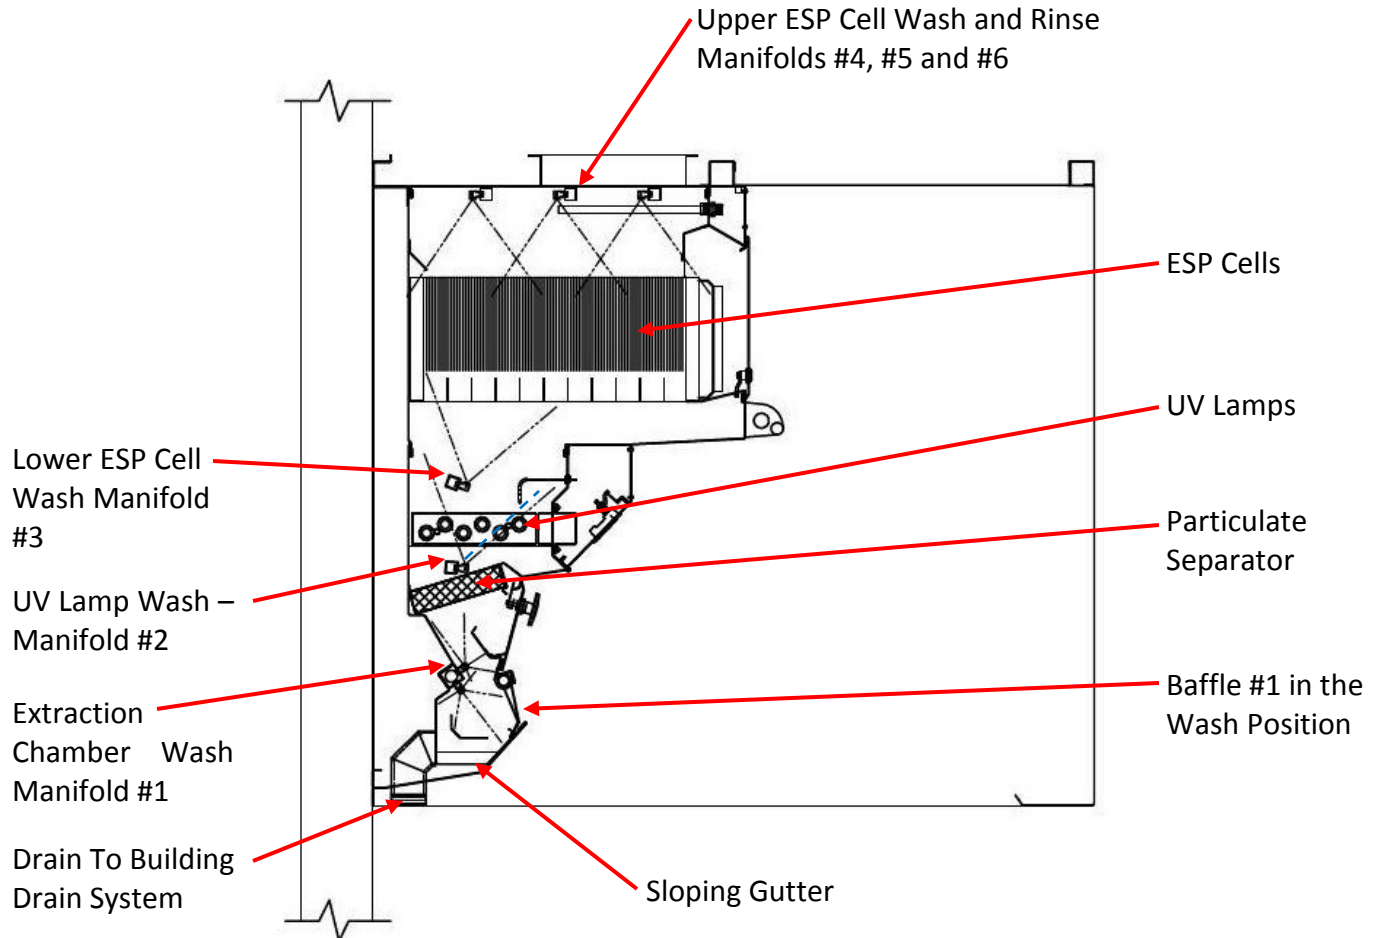

Figure 3-7-1
4. Baffle #1 begins closing forward to the wash position (Refer to Figure 3-7-1). This action takes approximately 45 seconds. **Note:** Baffle #1 only moves to the wash position on Models CG3-UVi-SPC and CG3-UVi-SPC-FDL Series. Baffle #1 is fixed on Models CG3-UVi-SPC-FDT, CG3-UVi-SPC-FDD and CG3-UVi-SPC-ND. Refer to pages 1-6 and 1-7 for complete explanation. **Important Note:** Refer to your Command Center Technical Manual for specific text displayed while the baffle #1 is moving to the wash position.
The Wash Cycle sequence washes away the day's grease, dust and lint accumulation from the Baffles in the Extraction Chamber, the Particulate Separators, gray dust from the UV Modules, and smoke particles from the ESP Cells, flushing them down to the main gutter which slopes to drain that leads to the building drain system (Refer to Figure 3-7-1). **Important Note:** Refer to your Command Center Technical Manual for specific text displayed while the Ventilator is in a Wash Cycle.
Note 1: If the Ventilator is equipped with a Gaylord Autostart Controller, the exhaust fan will stay on if the temperature at the sensor mounted in the canopy exceeds 90°F. (Refer to Figure 3-7-1). Once the temperature drops below 90°F., the fan will continue to run for 15 minutes and then shut off.
2. At the conclusion of a Wash Cycle, open the Extractor Inspection Doors and remove the Particulate Separators (Refer to Figure 3-7-1). Check the extractor area, Particulate Separators, and UV Lamps to ensure they are adequately cleaned. If the Particulate Separators are not clean, run them through a dishwasher. If overall cleaning appears to be inadequate, refer to the Troubleshooting procedure on Page 5-5 for corrective action.